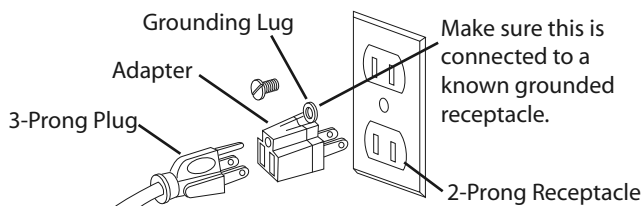

Figure 13 – 2-prong receptacle with adapter.
- A temporary 3-prong to 2-prong grounding adapter (Figure 13) is available for connecting plugs to a two pole outlet if it is properly grounded.